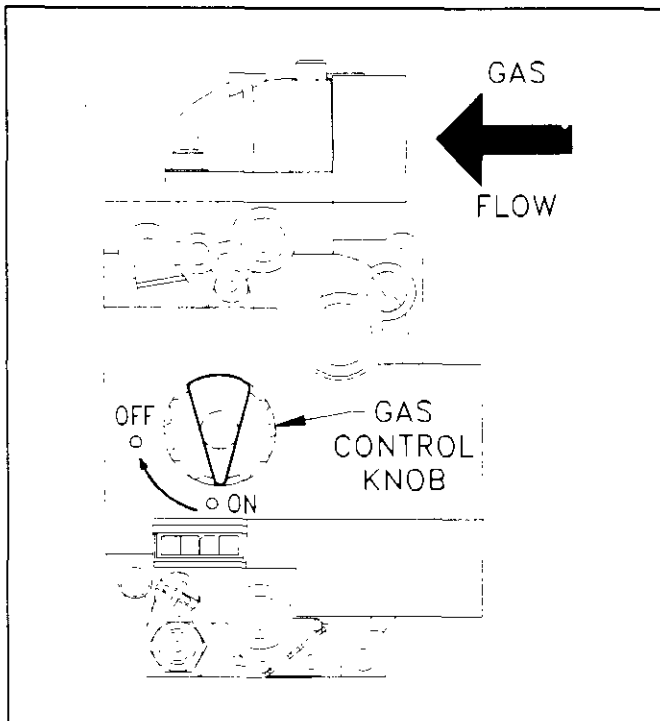

Figure 2. Furnace Gas Control.
5. Turn the brown knob on the furnace gas control clockwise to "OFF". Do not force. See Figure 2.
6. Turn the brown knob on the furnace gas control clockwise to "OFF". See Figure 2.
7. Wait five (5) minutes to clear out any gas. Then smell for gas, including near the floor. If you smell gas, STOP! Follow above instructions: "What To Do If You Smell Gas." If you do not smell gas, go to the next step.